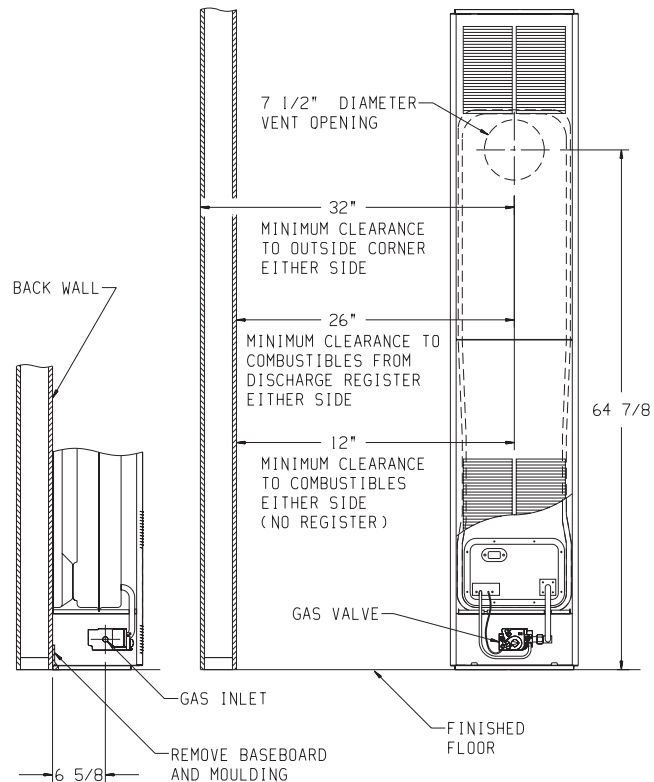

Figure 5
The furnace is to be located on an outside wall. Locate wall studs so that wall opening will be located between wall studs. The furnace is 16 inches in width and normal 16 inches on center studs will not allow the furnace to be recessed into the wall unless a stud is repositioned. The wall opening required as shown in Figure 5 is a diameter of 7 1/2 inches.
A template is provided in furnace carton for positioning furnace on the wall. Also, refer to Figure 5 for positioning the furnace on wall and for locating gas line connection.
Refer to Figure 5 for the location of the 7 1/2" diameter wall opening for the furnace. After the wall opening has been located and cut, position flue outlet on furnace in center of wall opening. Insert tubes through wall opening. When attaching furnace to the wall remove that portion of baseboard and molding on the wall which is behind the furnace. Attach furnace to wall, at the outer casing top, with two (2) plastic expansion anchors provided and to floor, at the outer casing bottom, with two (2) 10 x 1 1/2" screws provided.